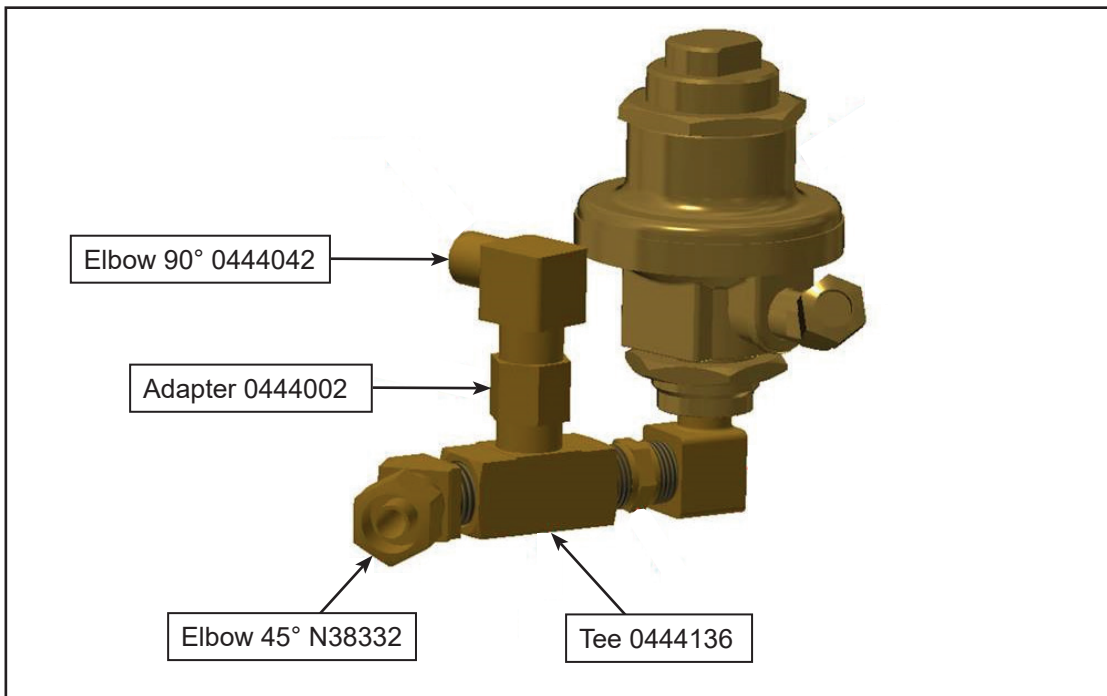

Figure 5 - Retain the Connectors
- 1.10. Elbow 90° P/N 0444042, adapter P/N 0444002, tee P/N 0444136 and elbow 45° P/N N38332 to remain installed (see figure 5).